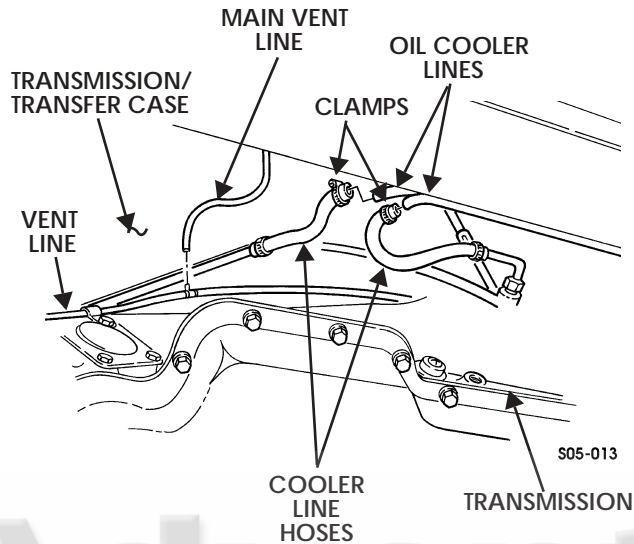

Figure 5-70: Oil Cooler Lines
17. Connect main vent line to transmission/transfer case vent line (Figure 5-70).